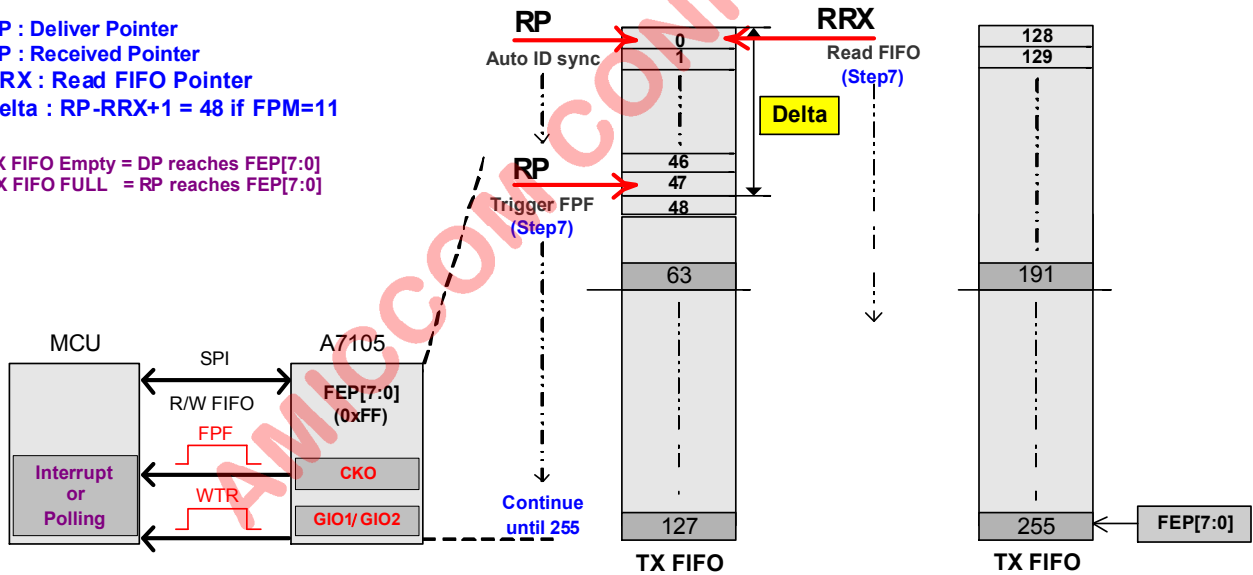

Figure 16.6 RX FIFO Extension Mode
4. Refer to Figure 11.2, Figure 11.3 and Figure 16.6 RX FIFO Extension.